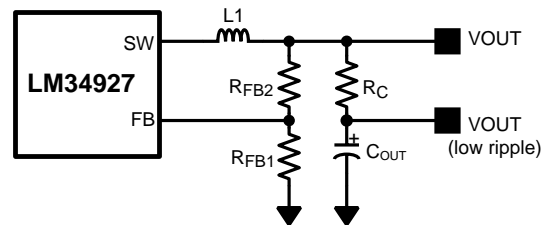

Figure 13. Low Ripple Output Configuration
This regulator regulates the output voltage based on ripple voltage at the feedback input, requiring a minimum amount of ESR for the output capacitor (C_{OUT}). A minimum of 25mV of ripple voltage at the feedback pin (FB) is required for the LM34927. In cases where the capacitor ESR is too small, additional series resistance may be required (R_C in Figure 13 Low Ripple Output Configuration).
For applications where lower output voltage ripple is required the output can be taken directly from a low ESR output capacitor, as shown in Figure 13 Low Ripple Output Configuration. However, R_C slightly degrades the load regulation.